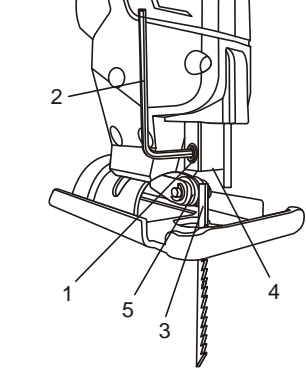

Fig. 3
1. To install a blade in the compact detail saw, loosen the blade holder set screw (1) by turning it counter clockwise approximately one full turn (Fig. 3).